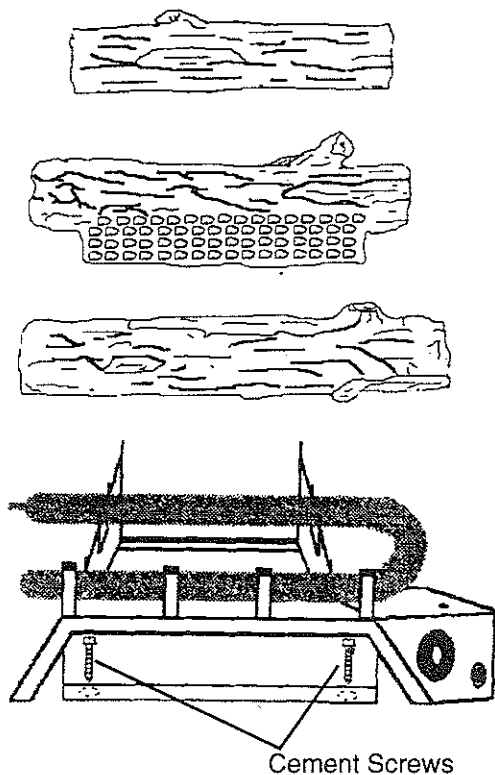

Figure 4
1. The largest log is placed in the front part of the grate with the notches facing upwards (see Figure 1, Figure 3 and Figure 4).
2. The second largest log (Middle Glow Log) is to be placed on the second tier of the grate. (See Figure 1, Figure 2, Figure 3 & Figure 4.)
3. The back log is to be placed on the back tier. (See Figure 1, Figure 3 and Figure 4).
The cement screws are only used with the lightweight ceramic fiber log sets (Models: FVFB-18, FVFB-24 & FVFB-30) to anchor the system to the fireplace floor. Center the fireplace burner system in the fireplace. With a 5/32" drill bit, drill a hole into the fireplace floor through the two holes provided in the faceplate on the front of the unit. Screw the two cement screws through the faceplate and into the fireplace floor as shown in Figure 4.